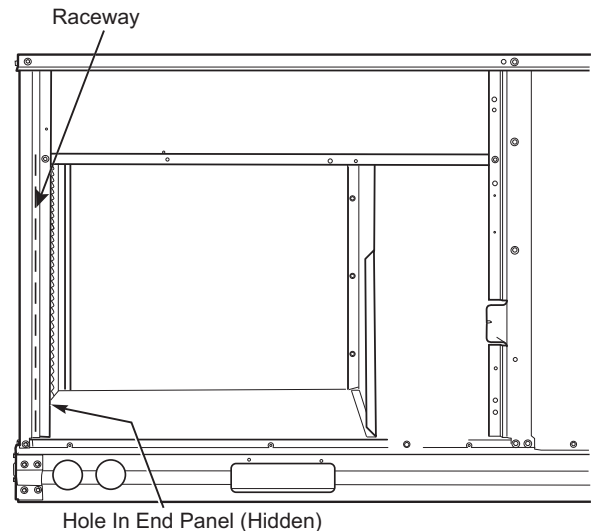

Fig. 36 — Field Control Wiring Raceway
Pass the thermostat control wires through the hole provided in the corner post; then feed the wires through the raceway built into the corner post to the control box. Pull the wires over to the terminal strip on the upper-left corner of the Unit Control Board. See Fig. 36.
2. Feed wires through the raceway built into the corner post (see Fig. 36) to the 24-v barrier located on the left side of the control box. The raceway provides the UL-required clearance between high-voltage and low-voltage wiring.
2. Feed wires through the raceway built into the corner post (see Fig. 36) to the 24-v barrier located on the left side of